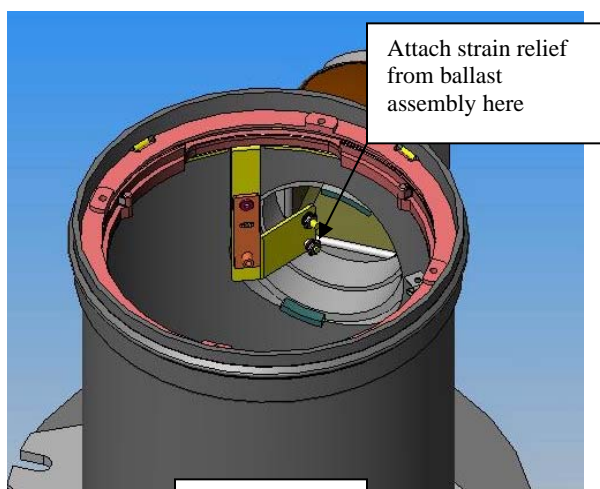

Figure 1
- 11) There is a plastic strain relief attached to free wires coming off ballast assembly. Attach strain relief to stud of in-grade housing and reattach nut. See Figure 1.